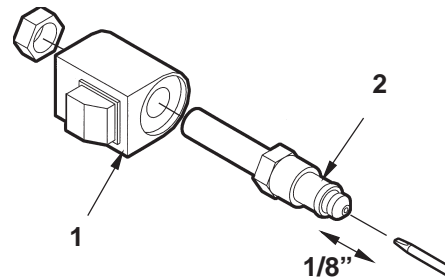

FIG. 64-2
3. Check if Solenoid Valve is getting power by holding a screwdriver against the top nut of the Solenoid. Push Control Switch to "**LOWER**" position to energize solenoid (**FIG. 64-2**). A good solenoid will attract (magnetically) the screwdriver to the nut and make it difficult to pull the screwdriver away from the nut.
4. Check the Valve Stem by removing the Coil Assembly (**Item 1, FIG. 64-2**). With platform supported, unscrew the Valve Stem (**Item 2, FIG. 64-2**) from the Pump. Push on the plunger located inside the Valve Stem by inserting a small screwdriver blade in the end. If the Plunger does not move freely (approximately 1/8") replace the Valve Stem.